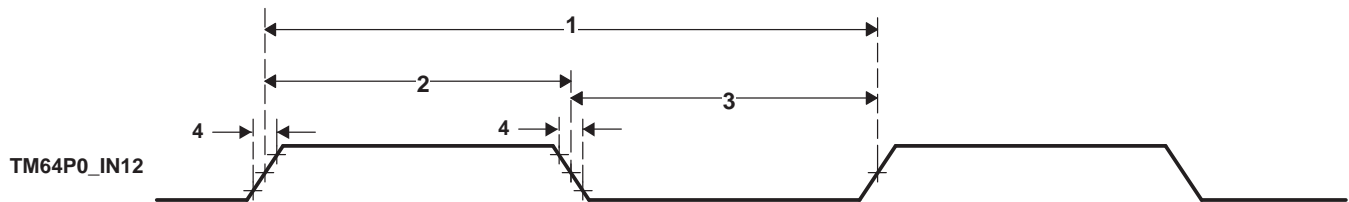

Figure 6-49. Timer Timing
Table 6-79. Timing Requirements for Timer Input^{(1) (2)} (see Figure 6-49)